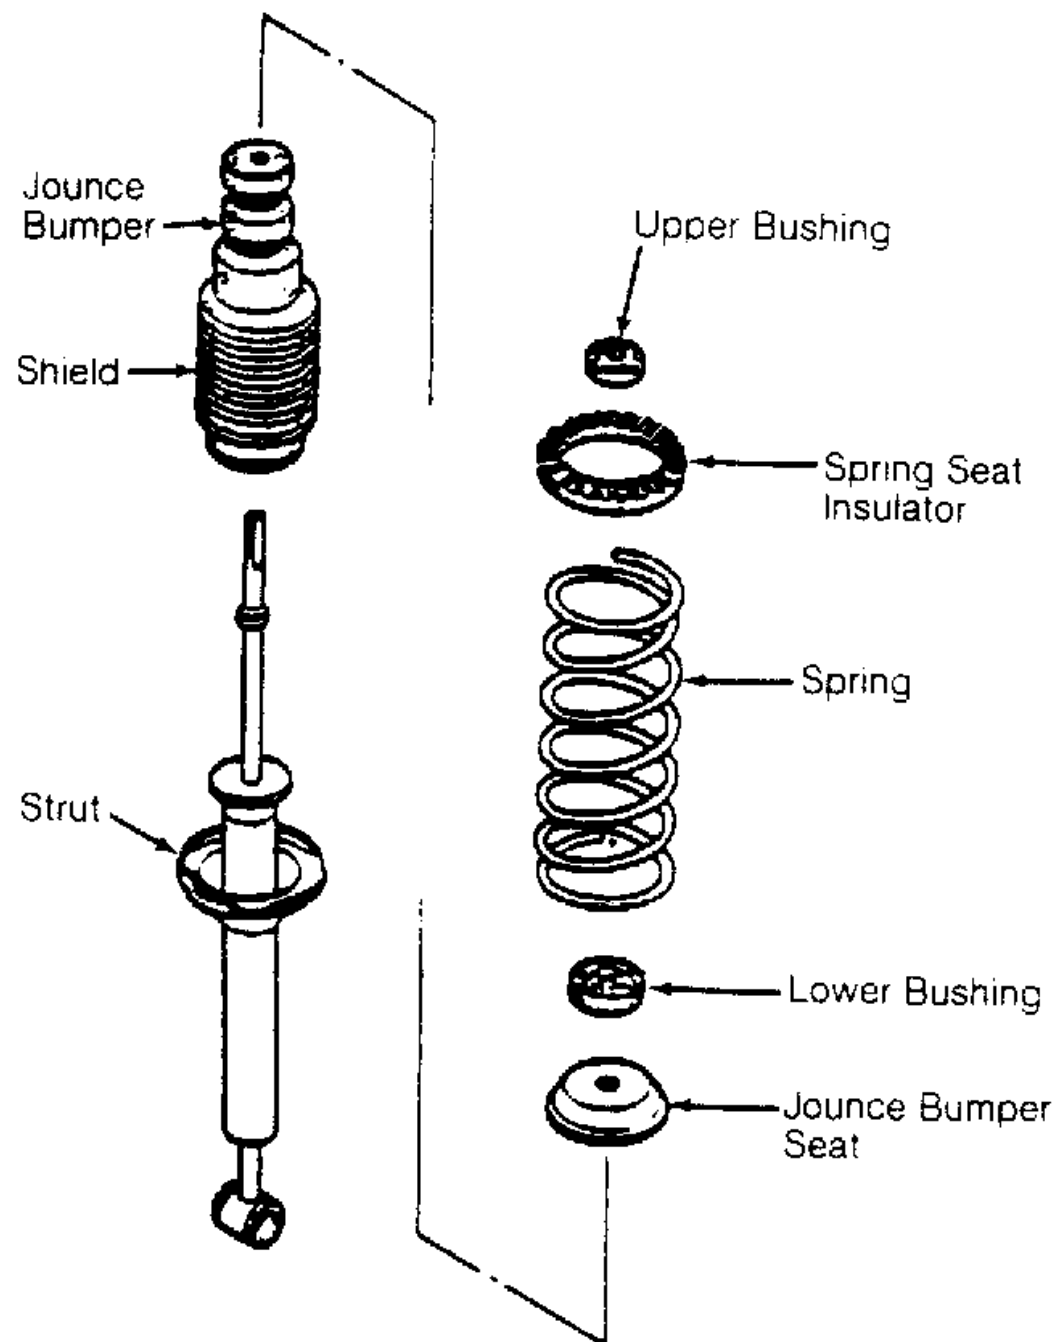

Fig. 3: Exploded View of Strut Assembly (Typical)
2. Remove jam nut and flanged nut from strut rod. Remove bushing washer and upper bushing. Remove strut lower end mounting bolt from wheel support arm. Remove strut and separate it from spring and seat insulator. Remove lower bushing and jounce bumper seat from strut rod. Slide jounce bumper and shield off strut. See Fig. 3 .